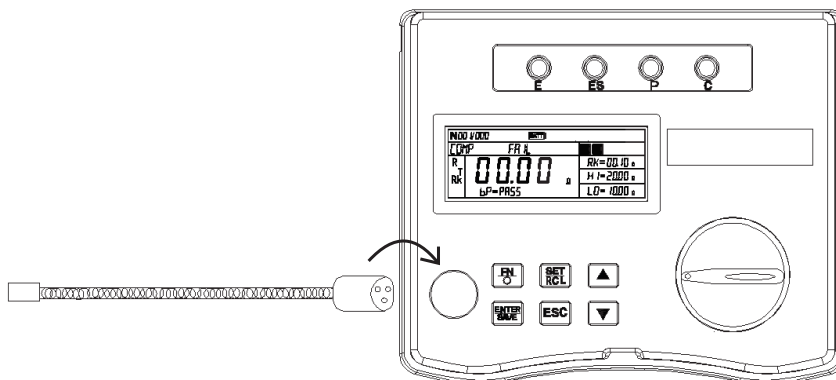

Fig.4-5 Connection of temperature sensor and machine
(1) Connect the temperature probe to panel connector (Fig.4-5)
- (1) Connect temperature sensor properly to connector of meter as fig.4-5.